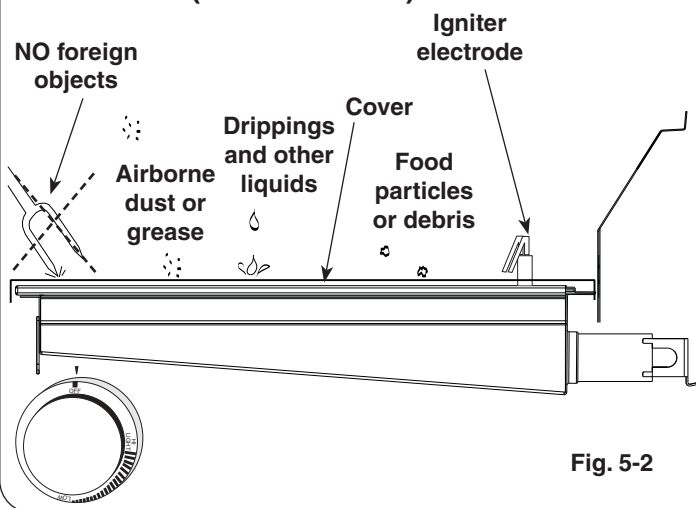

Fig. 5-2
- When not in use, **always** cover the infrared burner with the stainless-steel cover. This protects the burner from drippings (from other cooking), water, airborne particles, and foreign objects (Fig. 5-2).
- Do not strike or scrape the ceramic portion of the burner as it may chip, crack, or break (Fig. 5-2).